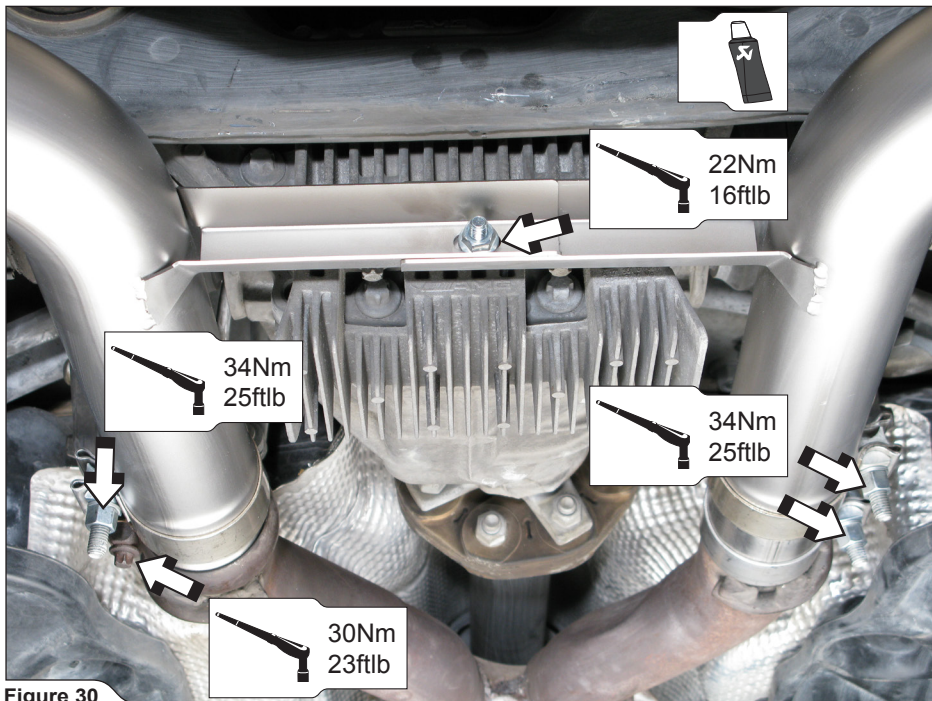

Figure 30
13. **For Slip-On only:** set and center the mufflers and tighten the muffler connection (using bolt and nut from installation kit). Push the middle and muffler pipes together, adjust the clamps and tighten them to a specified torques (**Figure 30**).